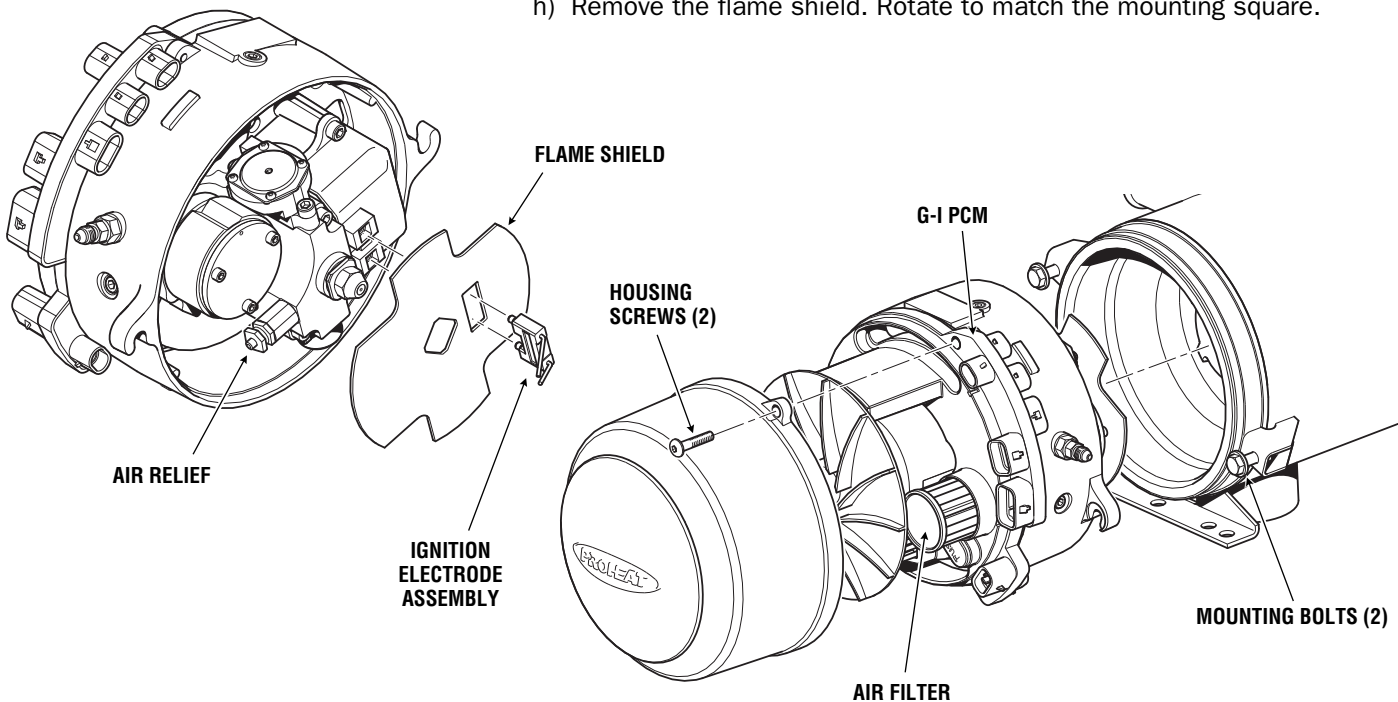

Figure 5-6: Access the Compressor and Air Filter
- Remove the nozzle and air relief (see figure 5-6). If the nozzle stem looks black, clean as shown on page 4-6 or replace the nozzle.
- Remove the air filter and blower (see figure 5-6).